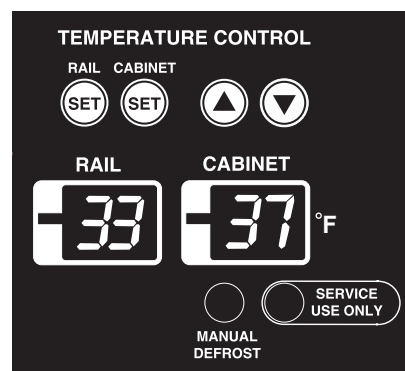

Fig. 9
- The rail and cabinet temperatures are displayed on the control panel. See Fig. 9. The control panel is located behind the front panel. The display default is °F, but it can be changed to read °C. To change, see "II.C.4. Changing the Temperature Display Scale (°F or °C)."